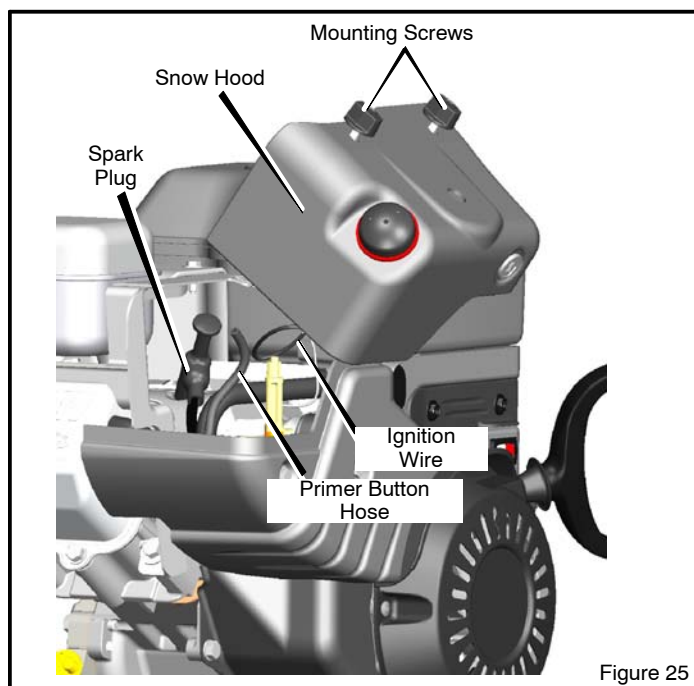

Figure 25
3. Remove the **mounting screws** (see Figure 25).
7. Mount the snow hood to the engine and secure with the mounting screws (see Figure 25).